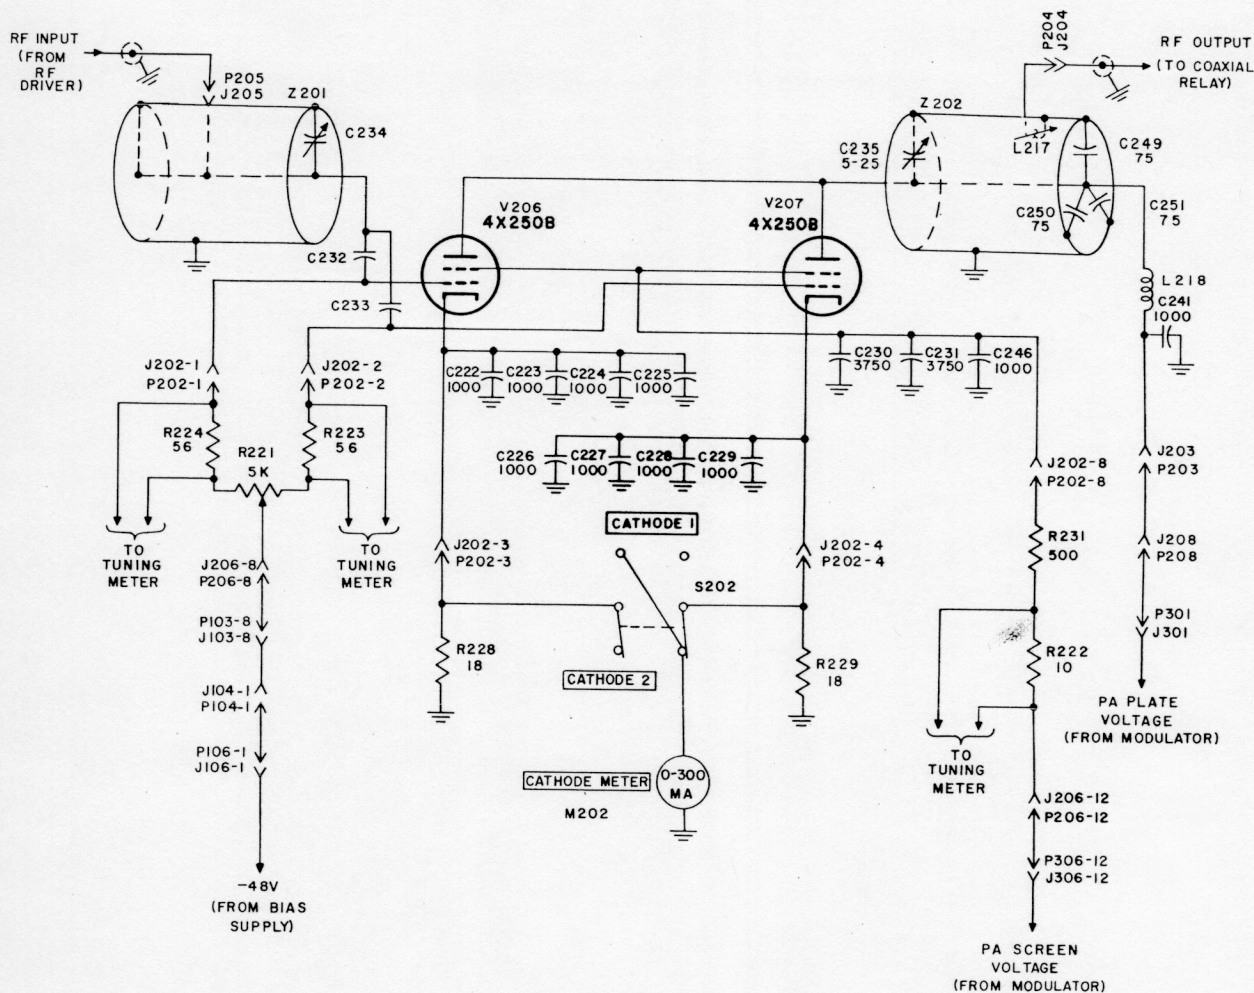

Figure 4-5A. Power Amplifier, Simplified Schematic Diagram
d. POWER AMPLIFIER. - (Refer to figure 4-5A.) The power amplifier is composed of V206 and V207, both type 4x250B tetrodes, and two quarter-wave, coaxial-type cavities, Z201 and Z202. V206 and V207 are connected in parallel for r-f. Z201 is